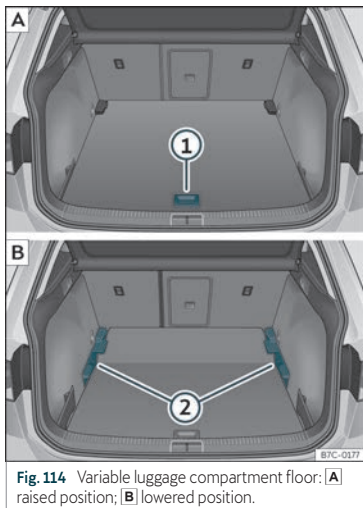

Fig. 114 Variable luggage compartment floor: **A** raised position; **B** lowered position.
- To move from the low position to the high position, lift the floor using the handle >>> Fig. 114 ①, and pull it back until the front of the floor has fully passed the supports >>> Fig. 114 ②.
- Move the floor forward over the supports as far as the rear seat backrest and then lower the floor with the handle ①.
- To move from the high position to the low position, lift the floor using the handle >>> Fig. 114 ①, and pull it back until the front of the floor has fully passed the supports >>> Fig. 114 ②.
- Now let the front part fall to the floor and slide the floor forwards as far as the rear seat backrest; lower the floor at the same time with the handle ①.
- Lift the variable floor in the high position using handle >>> Fig. 114 ①, pull it up and push it towards the backrest of the rear seats until it folds along the hinge line and the movable part of the floor is resting on itself.
- To move from the high position to the low position, lift the floor using the handle >>> Fig. 114 ① and pull it back a little.
- Push the variable floor towards the folded rear seats with the handle ① using some downward pressure so that the moving part of the floor is flush with the backs of the rear seats.